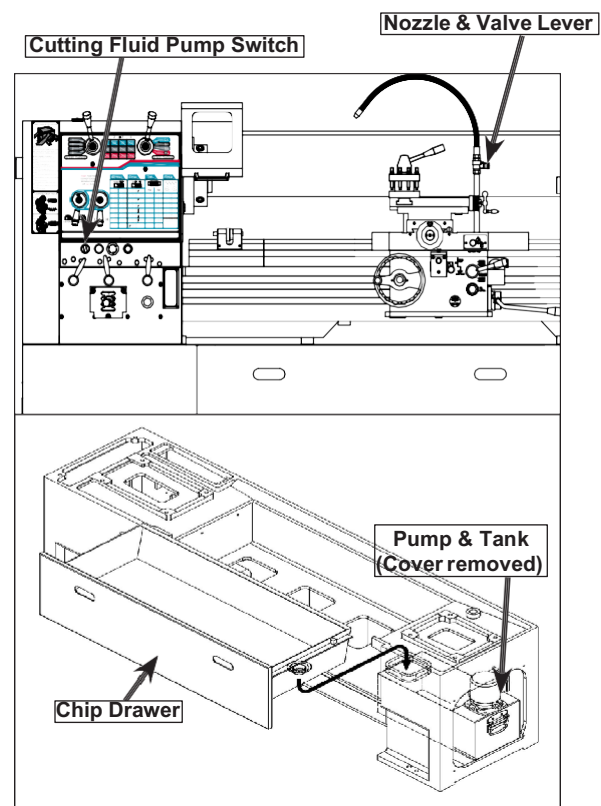
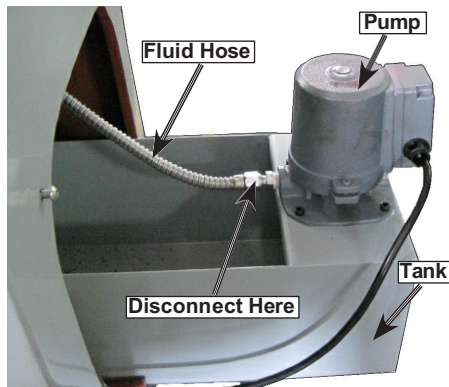

Figure 78. Cutting fluid system components and locations.
Figure 79. Cutting fluid pump and tank.
2. Remove the vented cover and slide the tank out, as shown in Figure 79.
5. Remove the vented cover shown in Figure 78 and slide the tank half way out of the base, as shown in Figure 79.
If necessary, disconnect the fluid hose from the pump, where shown in Figure 79.